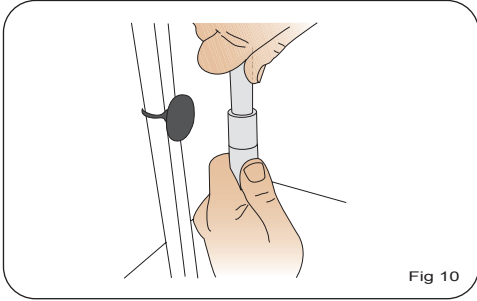

Fig 10
20. Force the hose onto the Walking Stick. You should be able to get it on 2.5 to 3cm. Fig 10